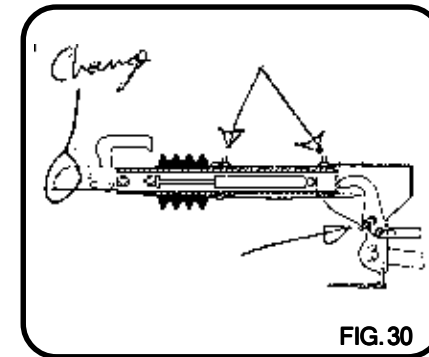

FIG. 30
**2.7 Examine and Lubricate the Overrun Assembly. (Fig.30)**